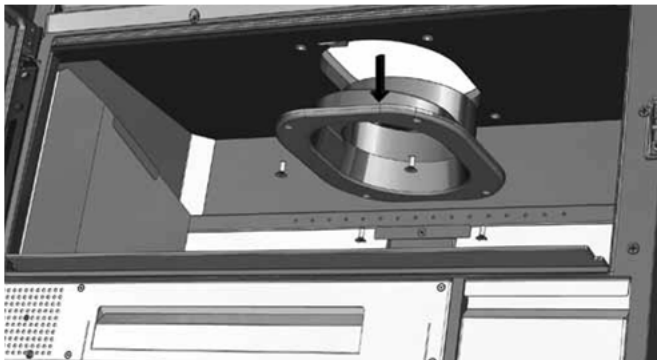

FIG. 12
2. Remove the chimney by pulling it down **ATTENTION! HOLD THE FIREPLACE WITH ONE HAND BEFORE RELEASING THE LAST SCREW; IF NOT THE CHIMNEY OUTLET MAY FALL** (Fig. 12).